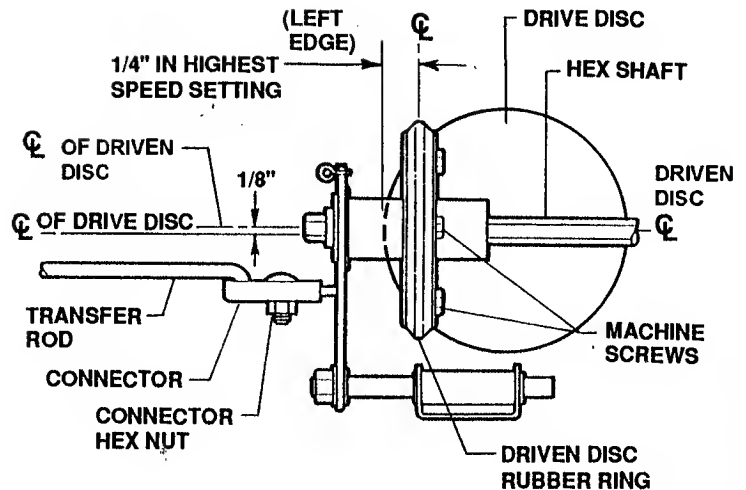

FIGURE 3.13
- Check the dimension from the centerline of the driven disc's rubber ring to the left edge of the drive disc. This dimension should be 1/4" in the highest speed setting. See Figure 3.13.
(f) To test the tracking adjustment, disconnect the transfer rod (Figures 3.13 & 3.14) and start the engine. If the rubber ring tracks in place approximately halfway between the center and left edge of the drive disc, the adjustment is correct.